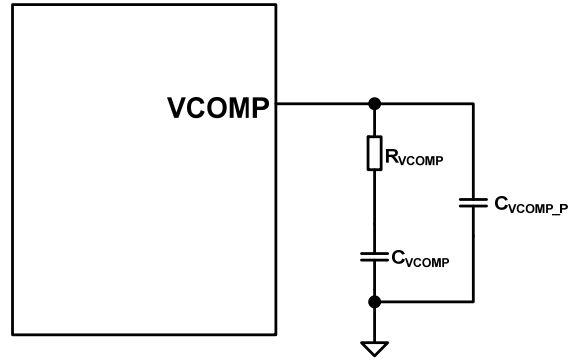

Figure 7: Compensation Network on VCOMP
VCOMP is the compensation node for the system output voltage control loop through the LLC frequency. Connect a capacitor in series with a resistor on VCOMP or an R-C-C network (see Figure 7). The zero composed of the R_{VCOMP} and C_{VCOMP} is recommended to cancel the pole formed by the system output. See Equation (11):